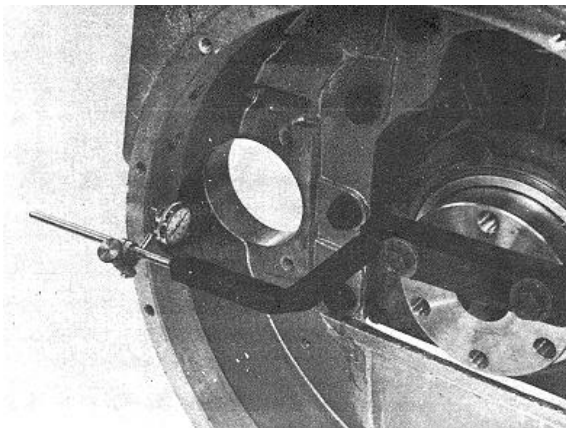

Fig. 14-56 (N114275). Check Location Of The Bore.
1. Install the Part No. ST-1325 Dial Gauge Attachment to the crankshaft. Install the Part No.3376050 Dial Gauge to the attachment, Fig.14-56.
1. Install the dial gauge attachment and dial gauge as shown in Fig. 14-56.